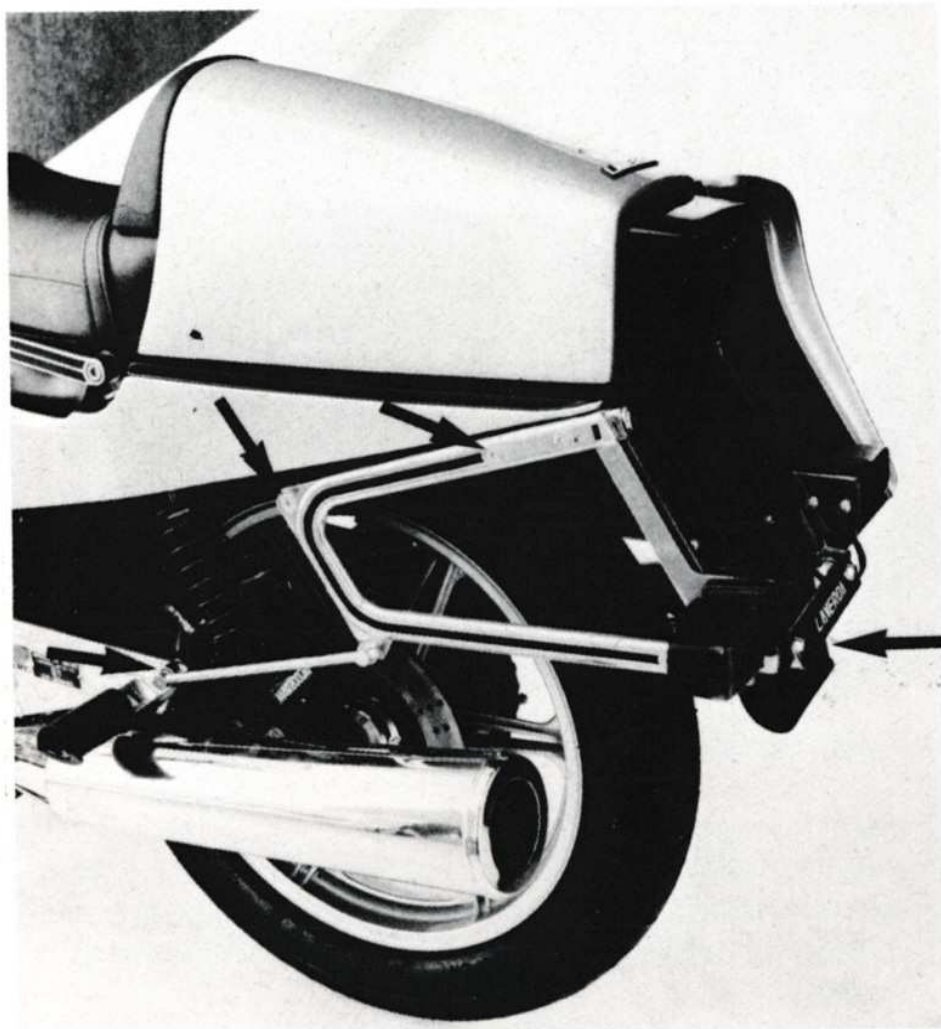

Fig. 68
### **Bag holder Removal for 1000 RGS EXECUTIVE Fig. 68**
- 3) Unscrew the 4 screws, see Fig. 68